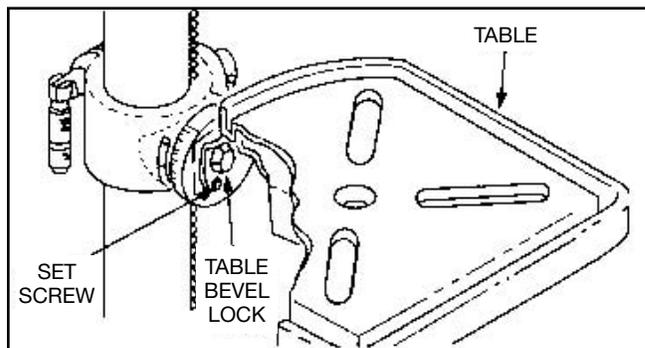

FIGURE 23
- c. Retighten table bevel lock and set screw. See figure 23.